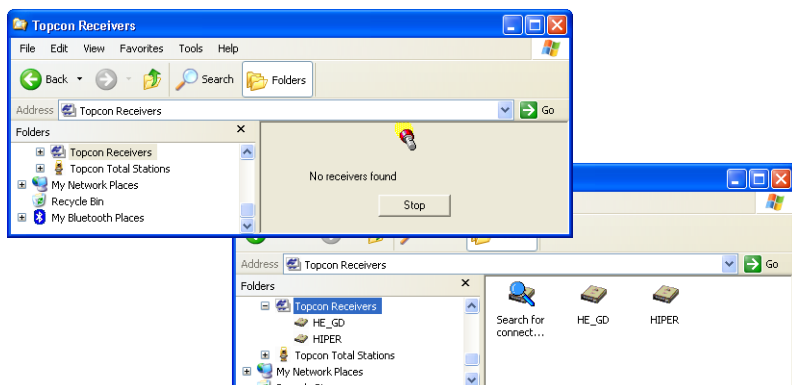

Figure 5-1. Searching and Finding Topcon Receivers in Windows Explorer
2. Open Windows Explorer, and click the Topcon Receiver folder. The right panel of the window displays the automatic start of searching for Topcon receivers connected to any of the computer ports (COM and USB) (Figure 5-1).
When finished, all receivers connected to the computer ports (Figure 5-1) are displayed.